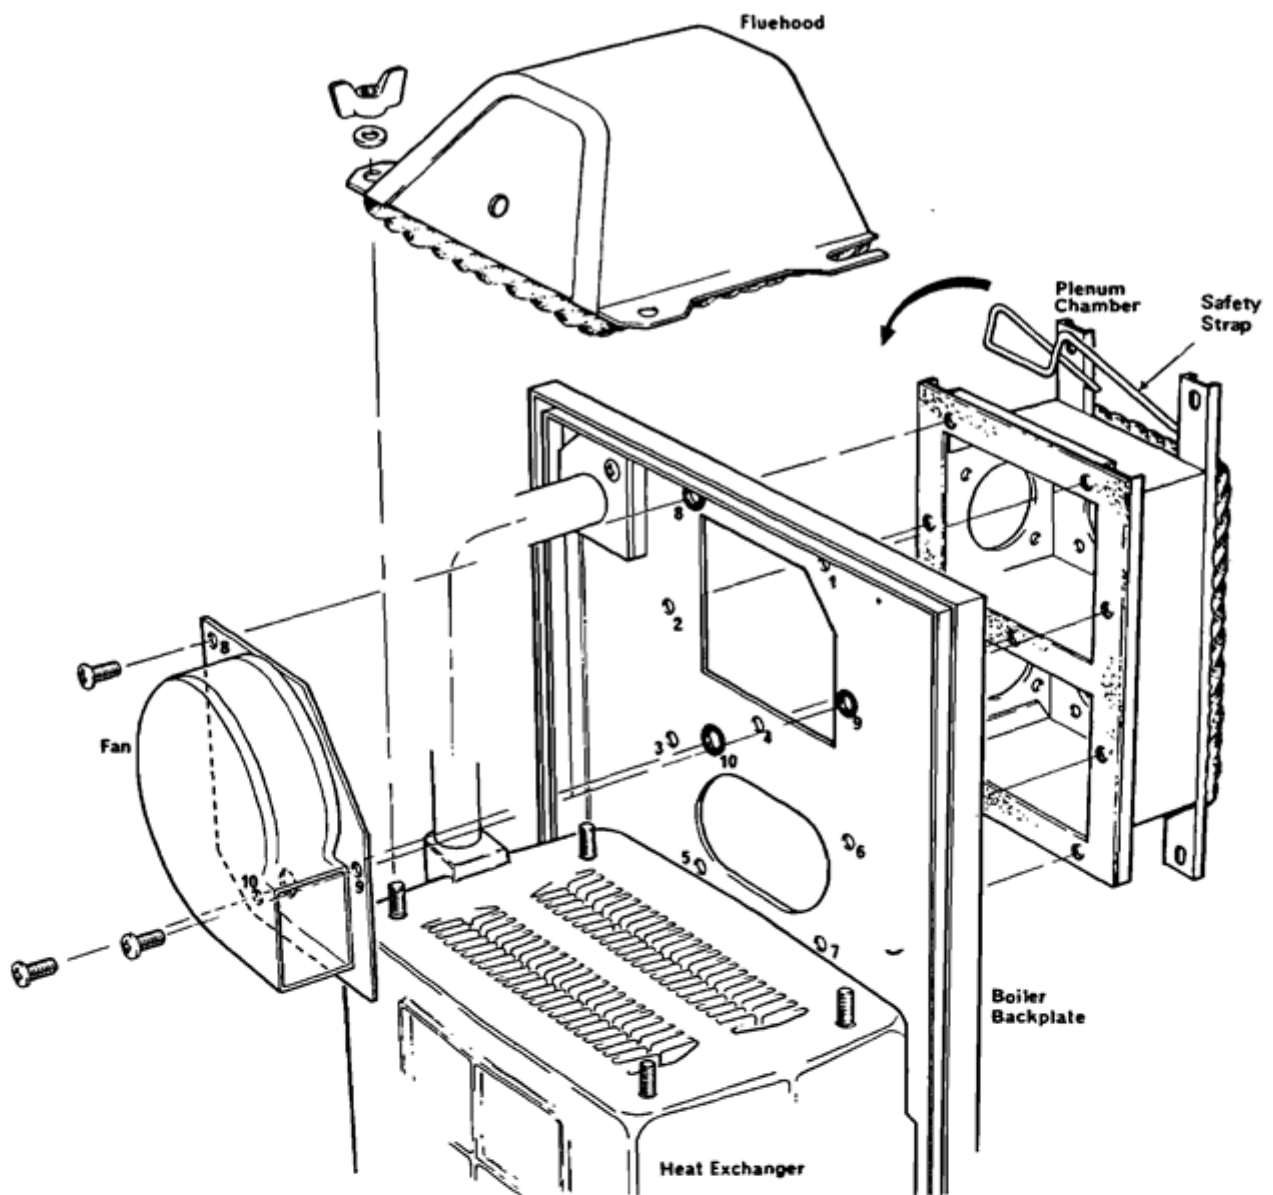

Fig. 9 PLENUM CHAMBER, FLUEHOOD AND FAN ATTACHING PARTS
F. Unscrew and remove the wingnuts securing the fluehood, then lift off the fluehood, see Fig. 9. Discard the paper gasket.
G. Disconnect the three electrical leads from the fan, then unscrew and remove the bolts securing the fan. Lift off the fan, see Fig. 9.
H. Unscrew and remove the bolts securing the plenum chamber, see Fig. 9.
- (2) Connect a suitable length of 15mm pipe to the main gas cock, terminating it above, below or to the side of the boiler in a length which can be easily connected to the main supply, once the boiler is in position on the wall.
5. Fitting the Boiler on the Wall – See Fig. 9
- A. Stand the boiler on the floor in a vertical position, then using the two wooden feet, the cast iron flow pipe and the underside of the heat exchanger, lift the boiler into position on the wall, locating its mounting bracket on the bearing plate in the mounting channel. Support the boiler in this position using the safety strap if necessary, then secure the boiler backplate to the plenum chamber with seven bolts, see bolts numbered 1 to 7 on Fig. 9. Three bolt holes in the boiler backplate are marked with a ring and these are for use when fitting the fan and must not be used in this operation.
- Warning:** (1) Take care not to damage the igniter housing on the back of the boiler, adjacent to the boiler main mounting bracket.
- (2) When fitting the bolts in A, the weight of the boiler could distort the boiler support bracket so making it difficult to line up the bolt holes in the boiler back plate with those in the plenum chamber. If this should occur, the weight of the boiler should be supported until the bolts are correctly engaged.
- B. Fit the fan in position and secure it to the boiler backplate with the three bolts, numbered 8 to 10 on Fig. 9. Connect the two mains electrical leads to their connections on the boiler backplate and the earth lead to the earth screw also on the backplate.